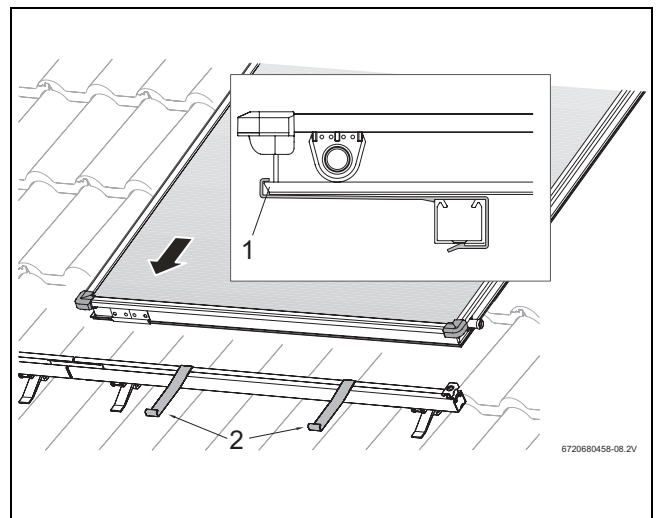

Fig. 38 Lay the first collector on the profile rails
- ▶ Place the first collector on the profile rail and insert anti-slip brackets (Fig. 38).
Position the lower collector edge in the aperture of the anti-slip bracket (Fig. 38, [1]).